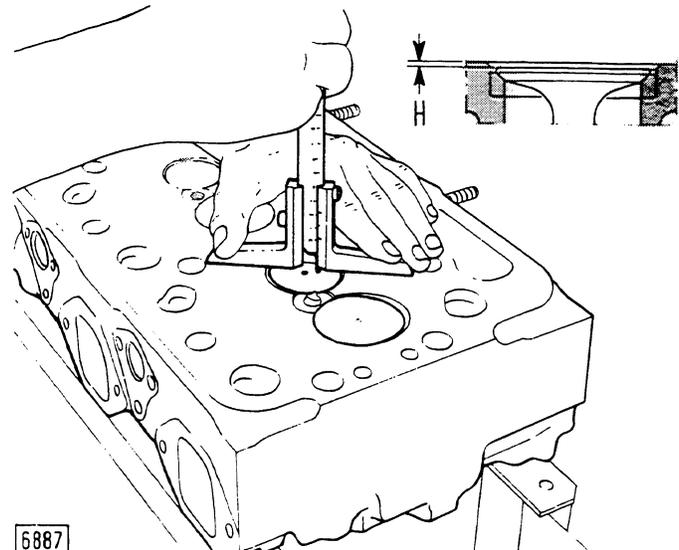

Fig. 16 - Checking Valve Depth in Cylinder Head
- Valve depth (H) is as shown in Fig. 16.
- Valve depth below cylinder head is as prescribed in Fig. 16.